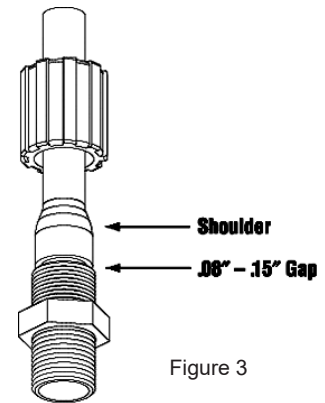

Figure 3
6. Push the flared tubing end onto the fitting body until the end of the fitting body contacts the flare shoulder of the tube (see Figure 3). The maximum gap between the tube end and end of threads should be .08 - .15".